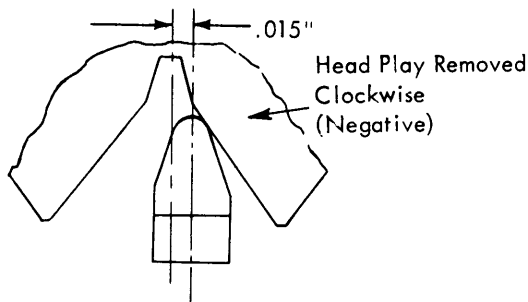

FIGURE 56. Type Head Homing
8. Preliminary Typehead Homing - Half-cycle the machine under power using the upper case letter "T". Loosen the set screw in the bottom of the rotate pulley and slip the typehead so that the detent will enter .010" to .020" from the center of the detent notch, on the negative side of the notch, when the head play is lightly removed in the negative direction (Fig. 56).